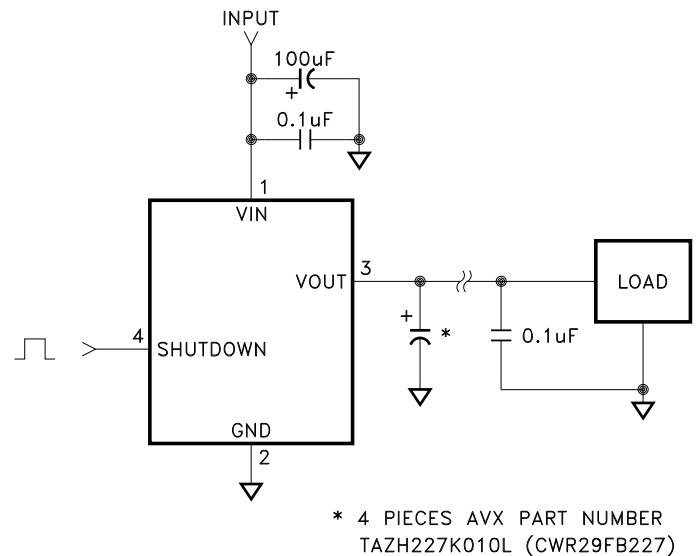

FIGURE 2
- ① Unless otherwise specified, V_{IN} = V_{OUT} + 1V, V_{SHUTDOWN} = 0V and I_{OUT} = 10mA. See figure 2 for typical test circuit.
- ② Guaranteed by design but not tested. Typical parameters are representative of actual device performance but are for reference only.
- ③ Industrial grade and "E" suffix devices shall be tested to subgroups 1 and 4 unless otherwise requested.
- ④ Military grade devices ("H" and "K" suffix) shall be 100% tested to subgroups 1,2,3 and 4.
- ⑤ Subgroup 5 and 6 testing available upon request.
- ⑥ Subgroup 1,4 T_C = +25°C